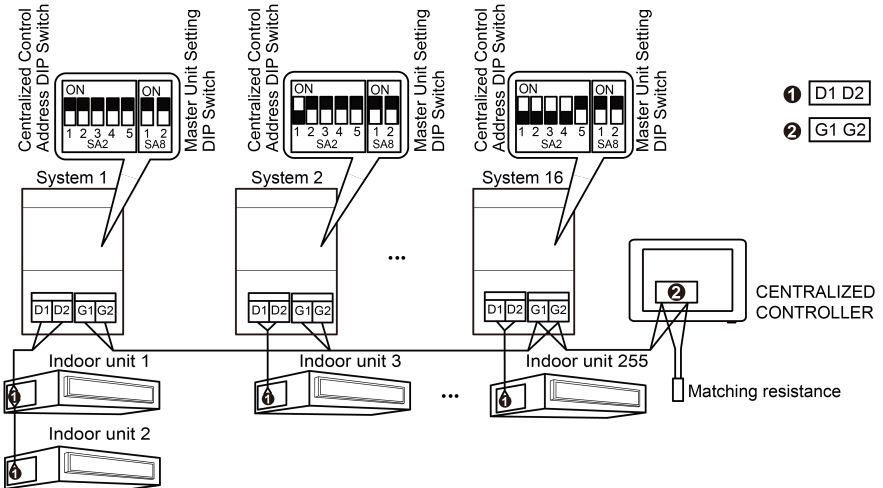
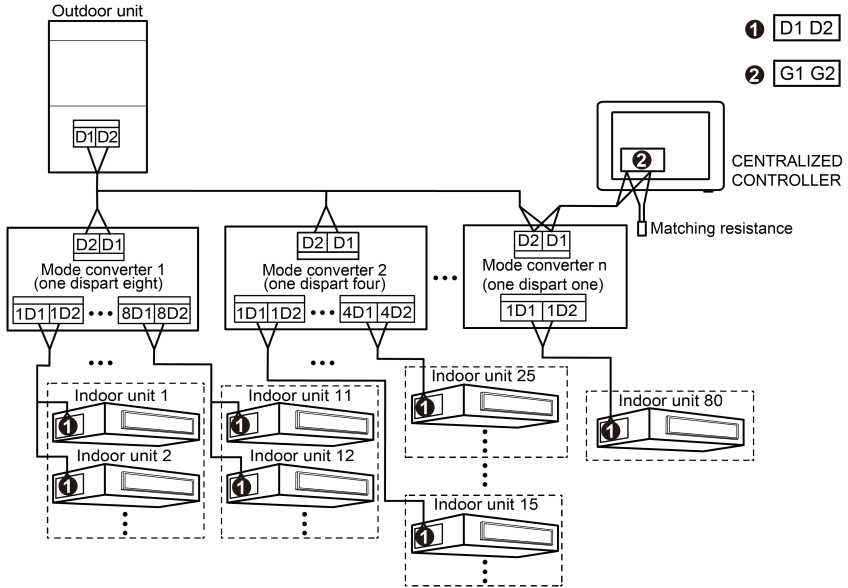

Fig. 3.5 Centralized controller connects to network of outdoor units
Fig. 3.6 Centralized controller connects to network of heat recovery mode converter
- (3) When the centralized controller is connected to the outdoor unit network, connect the network as shown in Figure 3.5. The centralized controller can only be connected to the last system of the outdoor unit system, and needs to be connected with matching resistors at the G1 and G2 interfaces together with the communication cable.
- (4) The centralized control address dial code (SA2_Addr-CC) is the centralized control address when centralized control is required between different refrigeration systems; and the factory default setting is "00000".
- (5) When the centralized controller is connected to the heat recovery network, connect the network as shown in Figure 3.6. Method 2 is also applicable to the centralized controller connected to the heat recovery network.